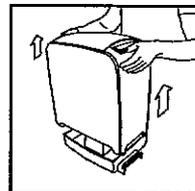

Fig. 42
- Remove the air washer housing from the basin by lifting the housing up and pulling it away from the basin. Set the housing to the side (Fig. 42).